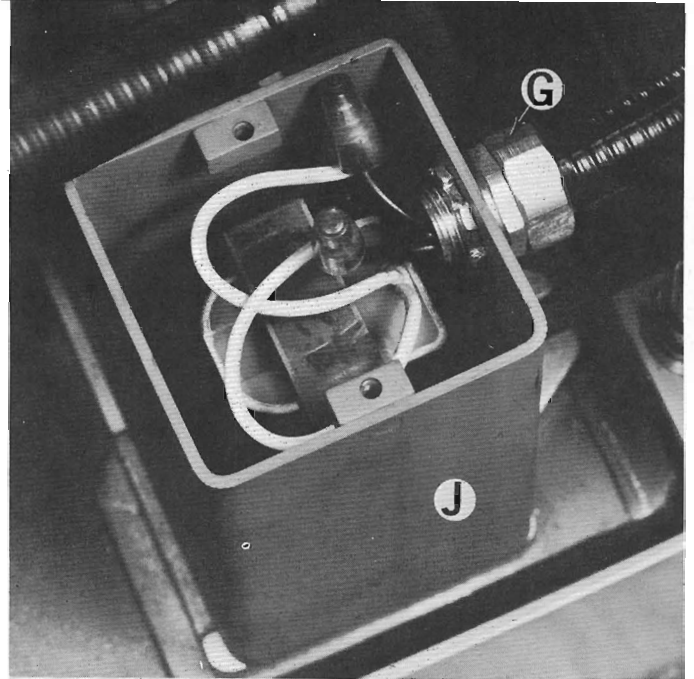

Figure 68 — Brake Housing with Cover Removed
1. Remove cover "F", Figure 67. Disconnect solenoid wires under cover. Remove conduit connector "G", Figure 68, from brake housing.
2. Remove two screws "H", Figure 67, and brake housing "J", Figure 68.